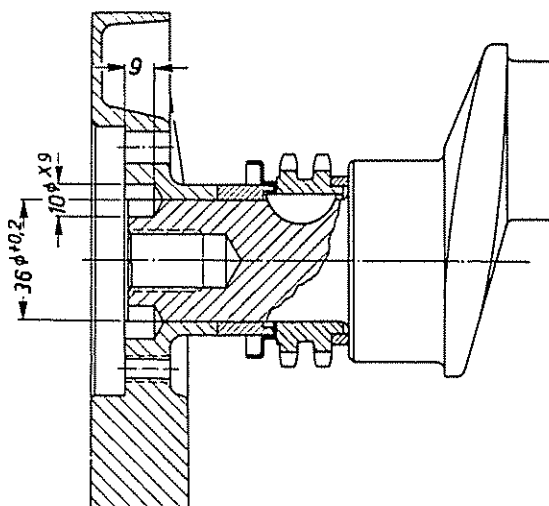

Fig. 01-4/62
Then drive in the two dowel pins. They must be seated firmly in the bores; if that is not the case, the bores must be bored and reamed to a diameter of 9.930-9.966 mm (10 ϕ X9) with a maximum depth of 9 mm; use thicker dowel pins 10 h 8 \times 8 DIN 7 (9.978-10.000 mm ϕ) (Fig. 01-4/62).
9. Assemble vibration damper. Insert the 8 pressure springs and 2 shear rubbers into flywheel and clamp uniformly by means of the two clamps 187 589 04 31 (Fig. 01-4/61).
10. Place outer contact disk (4), the compressed flywheel rings (5) and the inner contact disk (4) onto contact ring (9) of the pulley and attach by means of hexagon screws (11) to counterweight. Use spring washers with hexagon screws. Then remove the two clamps from vibration damper.